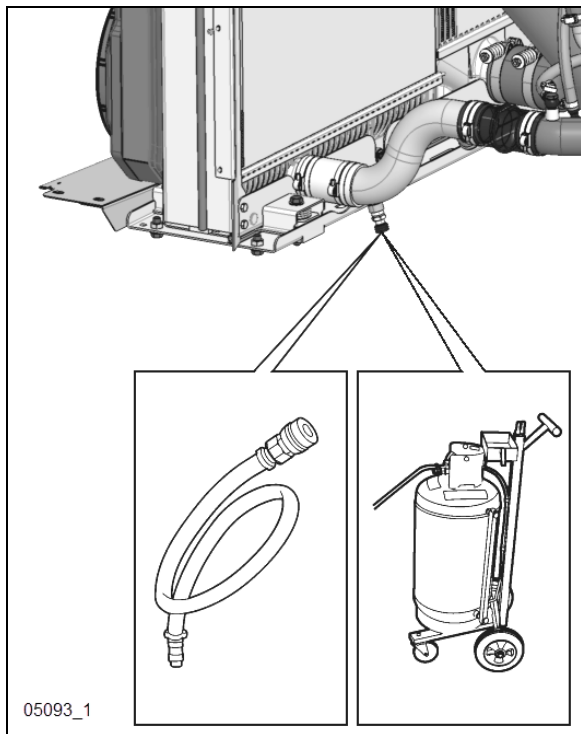

FIGURE 11: EXTRACTING COOLANT
5. Connect coolant extractor (Figure 11). Use coolant extractor to drain the coolant from the engine. An alternate method is to drain the coolant into a suitable container using the drain hose.